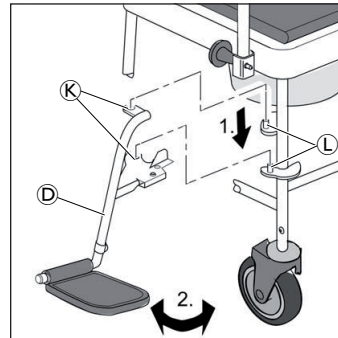

Fig. 4
5. Place the footrests (D) on both sides through the holes at the sides (K) into the attachment pins (L) (Fig. 4).